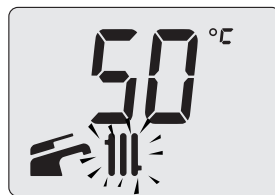

Figure 2.7
- the "set" value of the heating delivery hot water temperature and the  symbol flash. The display background lights up (Figure 2.7).